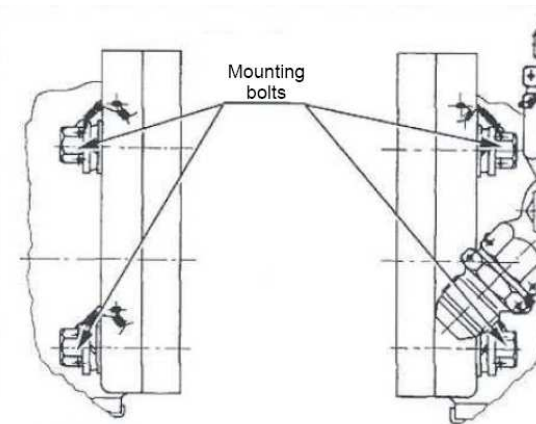

Figure 11-7 Governor mounting bolts
- (18) Fix the governor using four bolts (figure 11-7) using suitable wrench. A spring washer is at bolt head and the second washer is inserted into governor flange recess with chamfer facing governor. Secure at least three bolts using stainless steel lock wire (figure 11-7).
- (14) Use correct and clean packing. Place the governor onto engine gear box. Drive rod gearing must be correctly inserted into the gear box drive.
- (15) Fix the governor using four bolts (figure 11-7) using suitable wrench. A spring washer is at bolt head and the second washer is inserted into governor flange recess with chamfer facing governor. Secure at least three bolts using stainless steel lock wire (figure 11-7).
- (16) Pokud vrtule není v praporové poloze, natočte listy do praporu tak, aby beta-kroužek dosedl na přírubu vrtule.